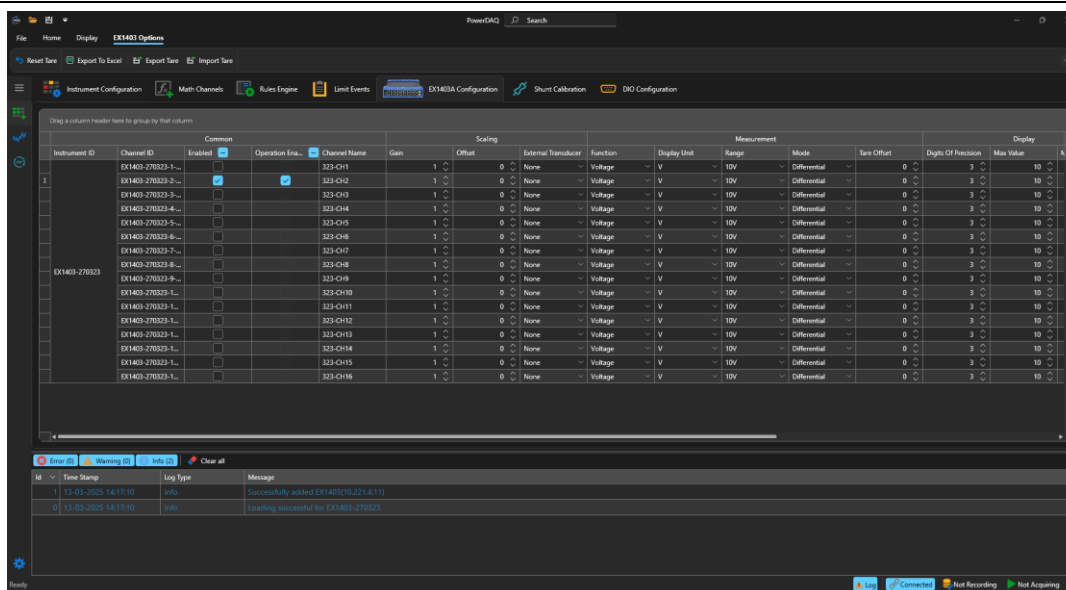

Figure 20. Channel Configuration Parameters
- Double-click an instrument in the Instrument Configuration Summary to display the Channel Configuration Parameters. See Figure 20.